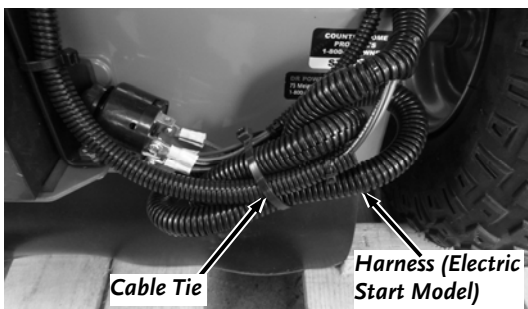

Figure 17
25. Cut the Cable Tie that is securing the Wire Harness at the rear of the machine using Wire Cutters (**Figure 17**).
Note: The Electric Start model that has the Harness on the right side is shown in Figure 17. The Harness for manual start machine is on the left hand side.